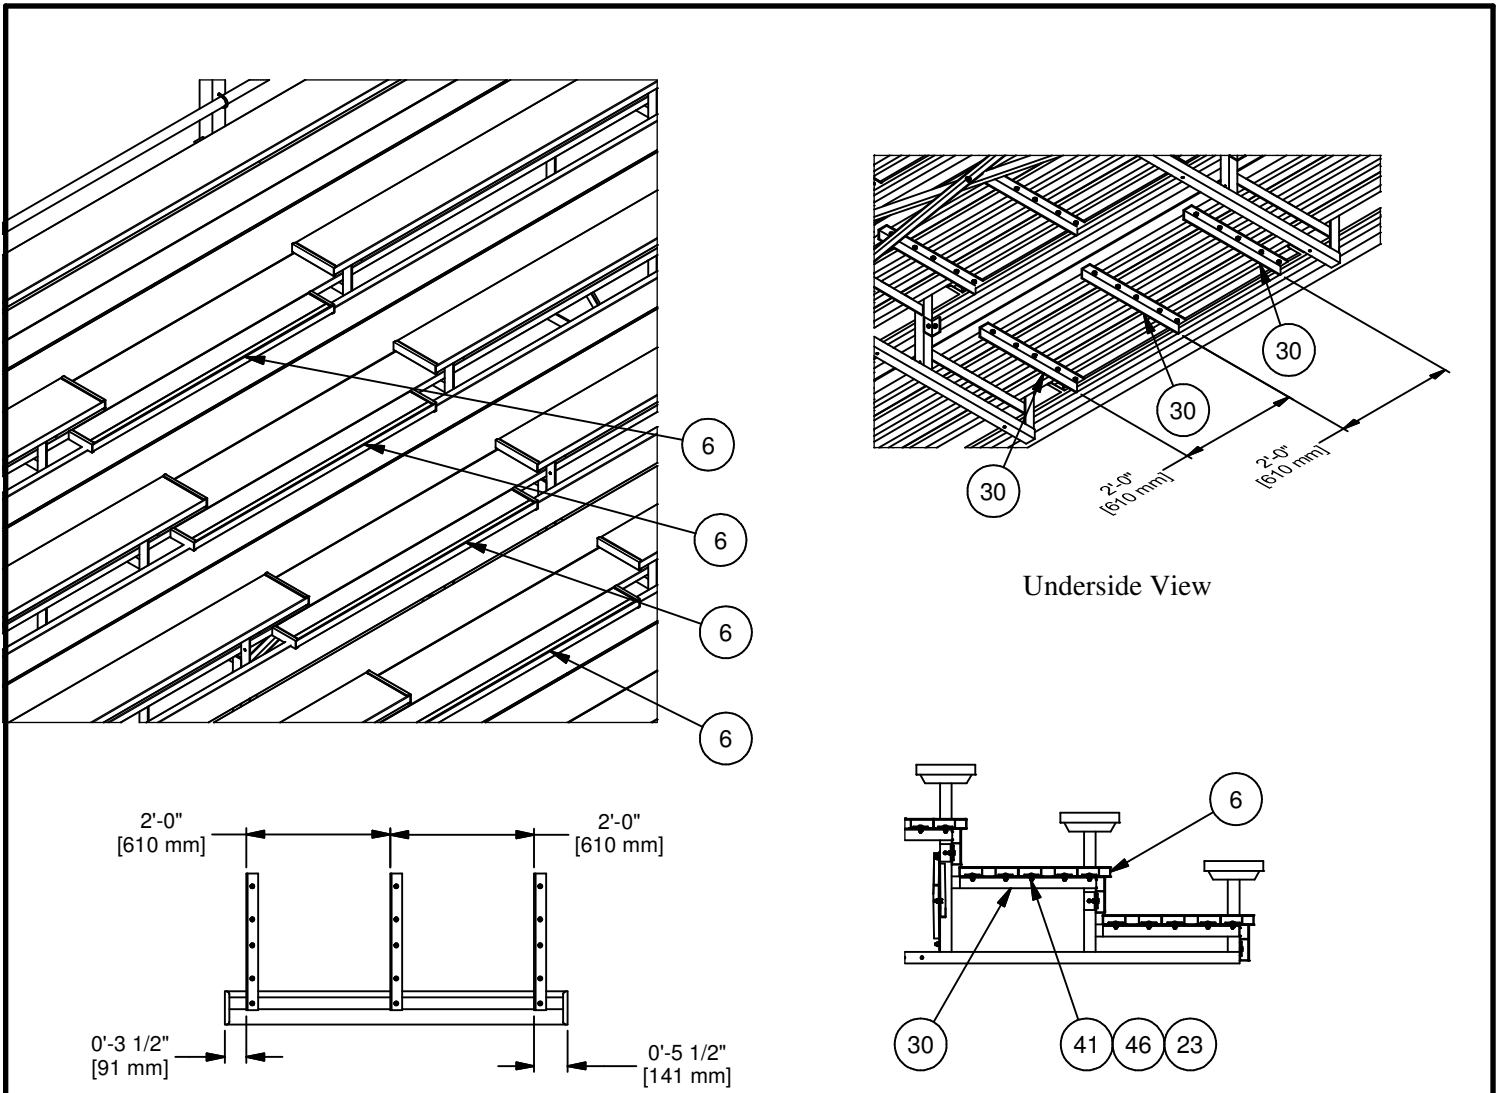

Figure 14
20. Attach three (3) bleacher step mounting angles (Item 30) to the riser step plank making sure the center angle bolt holes are in the center of the plank. Refer to Figure 14 for reference dimensions. The angles are attached with a mounting clip and a 5/16" x 1" carriage bolt and 5/16" whizlock nut. Do not fully tighten the nuts at this time. Slide the three mounting angles through the gap between the riser plank and the foot plank. Center the step plank on the aisle opening between seat planks. From the underside of the bleacher, attach each of the step mounting angles to the bottom of the foot planks using mounting clips, 5/16" x 1" carriage bolts, and 5/16" whizlock nuts. Four (4) are required per each mounting angle. Make sure the step plank is fully seated against the foot plank, centered on the aisle opening, and the mounting angles are pushed against the riser plank. Tighten all the nuts securely. Repeat the process for each aisle row.